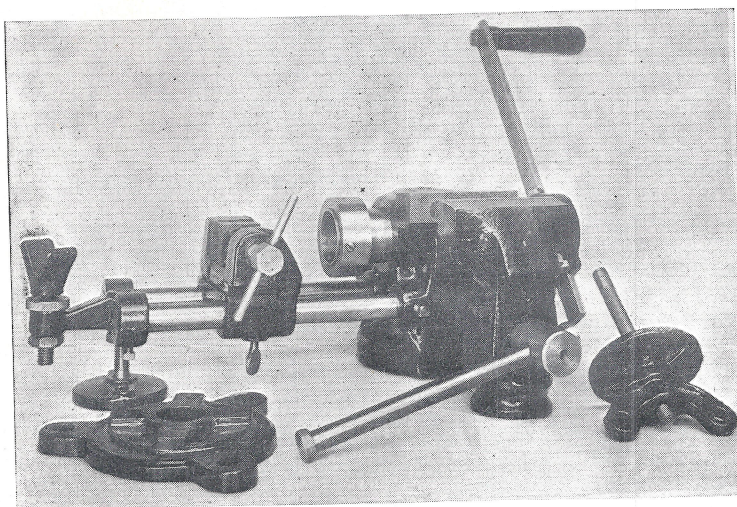
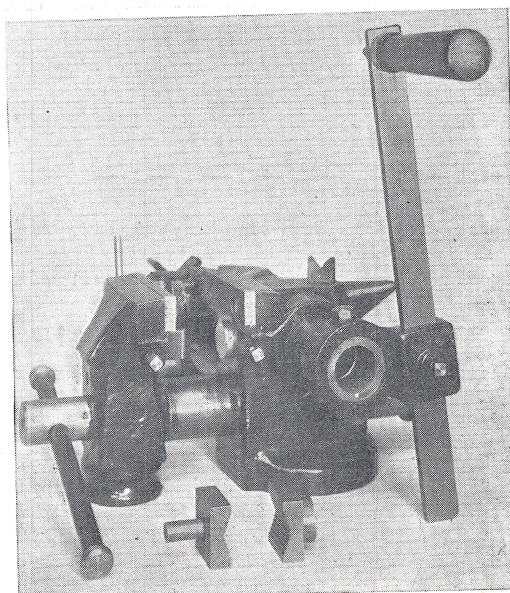
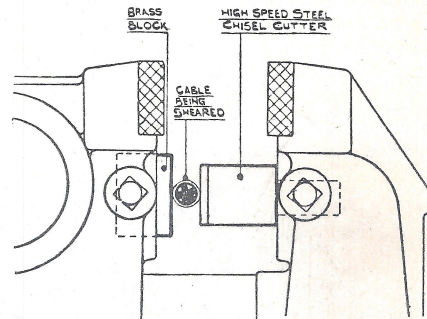

Fig. 1. The "101" Combination Vice, showing Screwing Gear, and attachments to Bench.
Fig. 2. The "101" Combination Vice, showing Operating Handle, Bench Vice, and attachments, with Anvil.
Fig. 4. Showing Cutting Gear in position.
* See page 449, Vol. 73, Fig. 4, "Locating holes," Nov. 7, 1935.
THIS note is the result of our examination of the above useful combination tool, which is a patented article, made by Messrs. The Yorkshire Metal Sprayers, Ltd., of 75, Barrack Road, Leeds, 7. Figs. 1 and 2, taken respectively, show: a front view of the combination, together with the permanently fixed 2-way bench plate to left front, and the clamping screw and bench plank washer, on front right; and a right hand end view, showing operating handle, parallel bench vice, and cutting device, tube jaws, and cable stripper mounted.
vee tube or rod support capable of adjustment for height. On the guide rods is mounted, adjustable for position anywhere along, a tube or rod vice with fixed and moving jaws by cross action, which vice, mounted on cross vee ways, can be set to centralise, by such floating action, any tube or rod held within its jaws. The capacity of this vice is up to $1\frac{1}{8}$ " diameter. Such work, firmly held, and supported at the tail by the vee, is available for hand action screwing by the hollow die carrier, working through the fixed jaw, and operated by the adjustable handle seen better in Fig. 2. The die holder is set concentric with the vice, and on front is hollowed to take
screwing machine; punching machine; cable, rod and pin cutter; cable stripper, and a flat and conical anvil, with swage socket. Taken in the order given, Fig. 2 shows first the bench vice, which has $3\frac{1}{8}$ " jaws, with hardened steel inset faces, capable of opening to a stop with $3\frac{1}{8}$ " of clearance. The screw is entirely covered by the cylindrical guide, which is slotted on the underside to act as a spline to the vice nut as a key. The pipe vice is effected by the attachment of the hardened jaws seen in the front of Fig. 2, which are attached in a manner to be described. By them, tubes ranging from $\frac{1}{4}$ " to 2" can be gripped. The tube, rod and strip bending is effected by the cylindrical reel shaped jaw at the base of the moving jaw, which, acting against and opposite to the fixed channel jaw at base of fixed jaw, admits of gripping work between and bending round the cylindrical jaw. The screwing machine is best seen in Fig. 1, which indicates a pair of round rod parallel guide bars, held horizontally between a pair of sockets on the fixed vice body and a pair of similar sockets on an outlying flanged bench support, adjustable for height. The guide bar sockets are all set-screw adjusted in the four positions. The outlying support, still further out, carries a
the parallel vice-screw, but punches and dies are extra. The cable, rod and pin cutter, as seen in position in Fig. 2, and shown in action in Fig. 4, consists of a chisel edge cutter, socketed into the moving jaw below its grip face, to which it is set-screwed, and set opposite a brass anvil block similarly socketed and set screwed to the fixed jaw. The cutter socket is $\frac{7}{16}$ " and takes also, in place of the cutter, a tube grip jaw or a punch. The anvil socket is 1" and takes also, in place of the anvil, the other tube grip jaw or a punch die. All these actions
are operated by the vice screw. The cable stripper is a vee chisel edged swage piece, set in the swage socket of the anvil, seen in position in Fig. 2. By this, and hand action, insulation of cable can be circularly cut and stripped off. The anvil is a back projection of the fixed vice jaw, and, with any swage removed, presents a $2\frac{1}{2}$ " \times $1\frac{1}{2}$ " flat face and a strong conical bick projecting $1\frac{1}{2}$ " further.